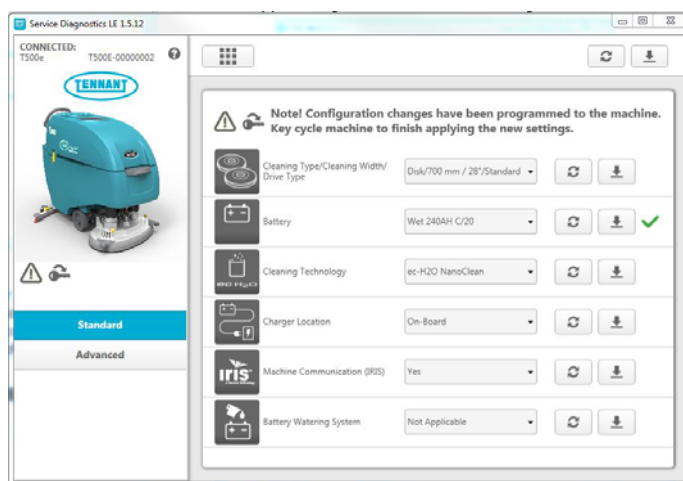

Fig. 12
12. Check and correct the installed options (Figure 12). Then press the down arrow button to program the machine. A green check will appear next to the down arrow button when programmed.